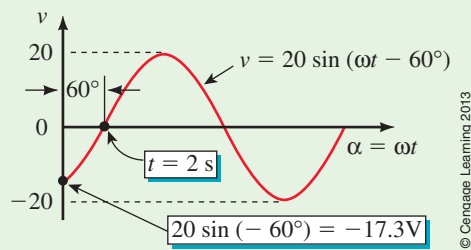

FIGURE 15-32
Demonstrate that $v = 20 \sin(\omega t - 60^\circ)$, where $\omega = \pi/6$ rad/s (i.e., $= 30^\circ/\text{s}$), yields the shifted waveform shown in Figure 15-32.
2. Consider $v = \sin(\omega t - 60^\circ)$. At $t = 0$ s, $v = 20 \sin(0 - 60^\circ) = 20 \sin(-60^\circ) = -17.3$ V as indicated in Figure 15-32.